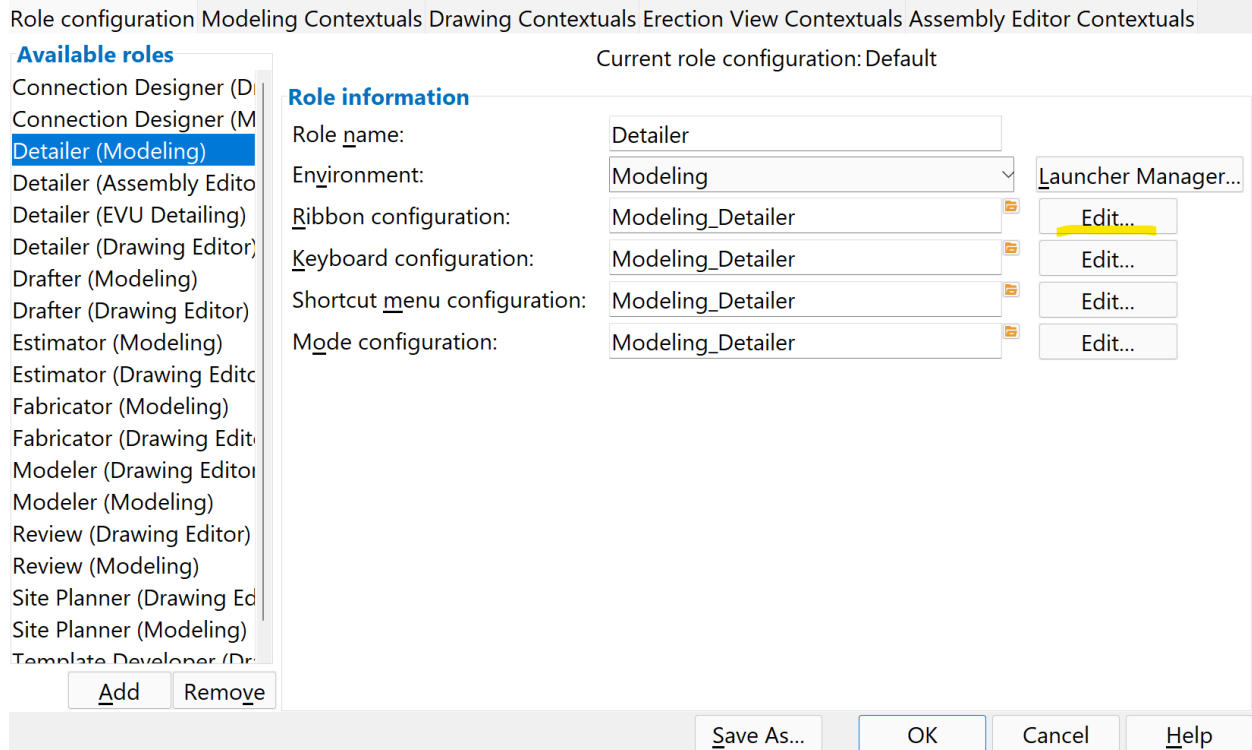

Figure 9. Customize Interface Window
- 7) When the *Customize Interface* window comes up, Select **Detailer (Modeling)** (Figure 9).